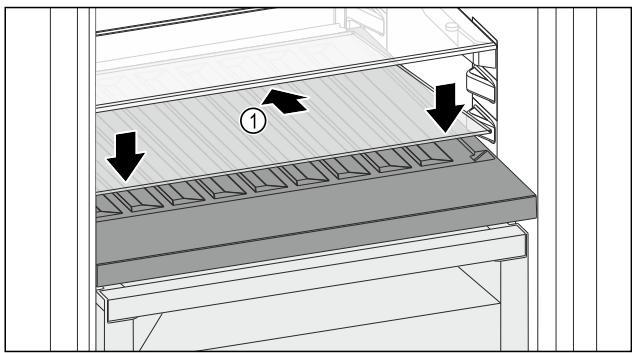

Fig. 141
- ▶ Place the glass shelf Fig. 141 (1) at an angle, sloping it downwards and backwards.
- ▶ Lower the glass shelf Fig. 141 (1) at the front.